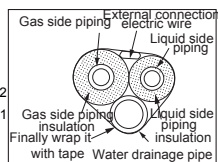

Fig.3
2. Take out the piping from body case, wrap the piping electric wire, water pipe with tape and put them through the piping hole (As show in Fig. 3)